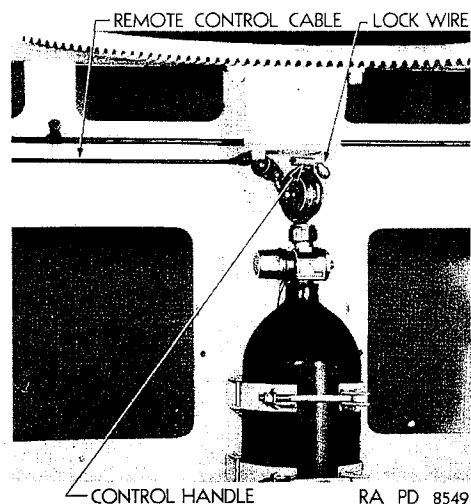

Figure 22—Fire Extinguisher Controls
a. Two sizes of carbon dioxide fire extinguishers are carried in each vehicle. A fixed 10-pound unit is clamped in a vertical position on the bulkhead of the fighting compartment (Fig. 22). This unit connects to tubes leading to the engine compartment, and is used for extinguishing fires in the engine compartment only. Its controls are accessible from the turret. In addition, a remote control lever on the top of the fighting compartment just ahead of the right sponson permits operation of the fire extinguisher from outside the vehicle.
b. In case of a fire in the engine compartment, the fixed extinguisher is set in operation by breaking lock wire, removing valve locking pin, and pulling control handle forward and down (Fig. 22). The fire extinguisher can be set in operation from outside the vehicle by pulling the remote control handle backward. This floods engine compartment with carbon dioxide gas, and will extinguish a fire with the engines running up to 1200 RPM. If conditions permit, however, the engines should be stopped.